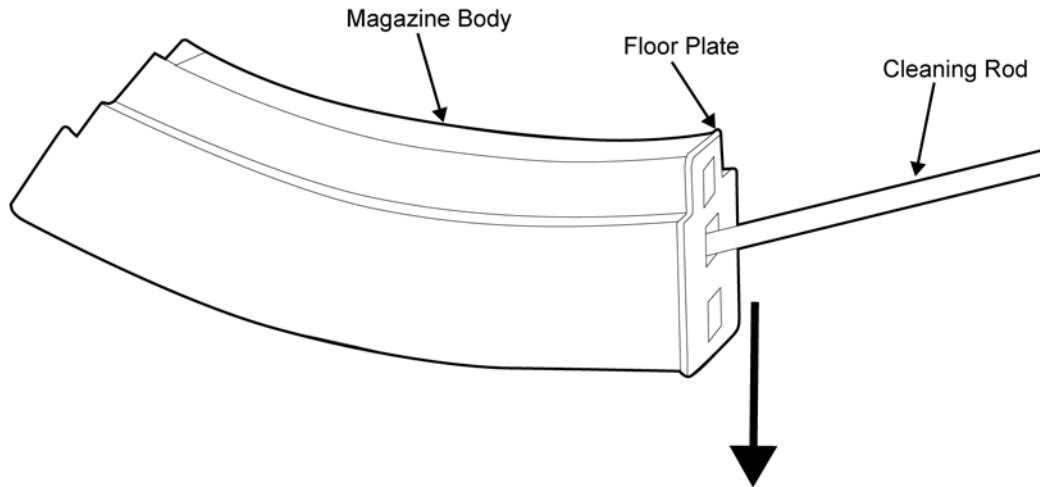

Figure 25. Pushing in the Locking Plate and Sliding the Floor Plate off of the Magazine.
1. Use the cleaning rod, or other field expedient tool, to push in the locking plate, which is seated under spring tension behind the floor plate. With the locking plate depressed, slide the floor plate to the rear and off of the magazine body. Refer to Figure 25.